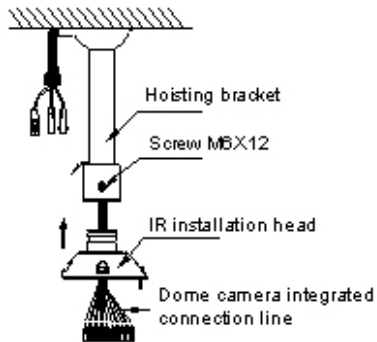

Fig 6-6 Connect installation head and hoisting bracket
3. Fix the dome camera installation head to bracket, screw 3 M6×12 screws , as fig 6-6.
3. Fix the installation head that with dome camera integrated connection line to wall mounting bracket, pass the connection line through bracket, move the installation head in the direction of the arrow, until it reaches the bracket, then fix 3 M6X12 screws, as fig 6-6.